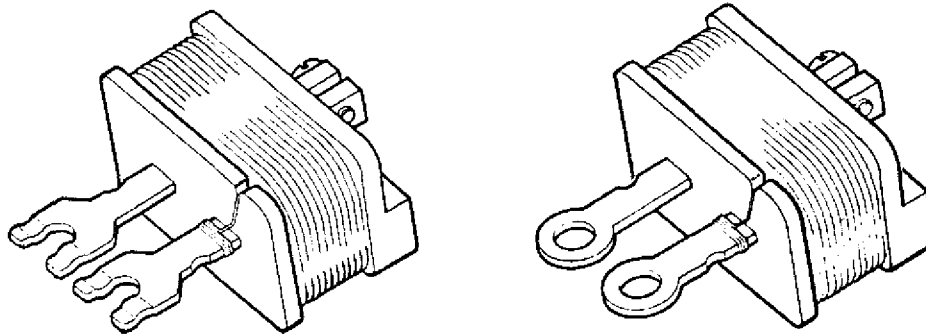

Fig.1. Compensating Lead Adjustment Spool
Connection to the circuit is by means of two terminal tags which may be of either the eyelet type or the fork type, as shown in Fig.1. Terminal types are identified by the part numbers as given in the addendum.
B. Detail (Refer to Fig.1.)